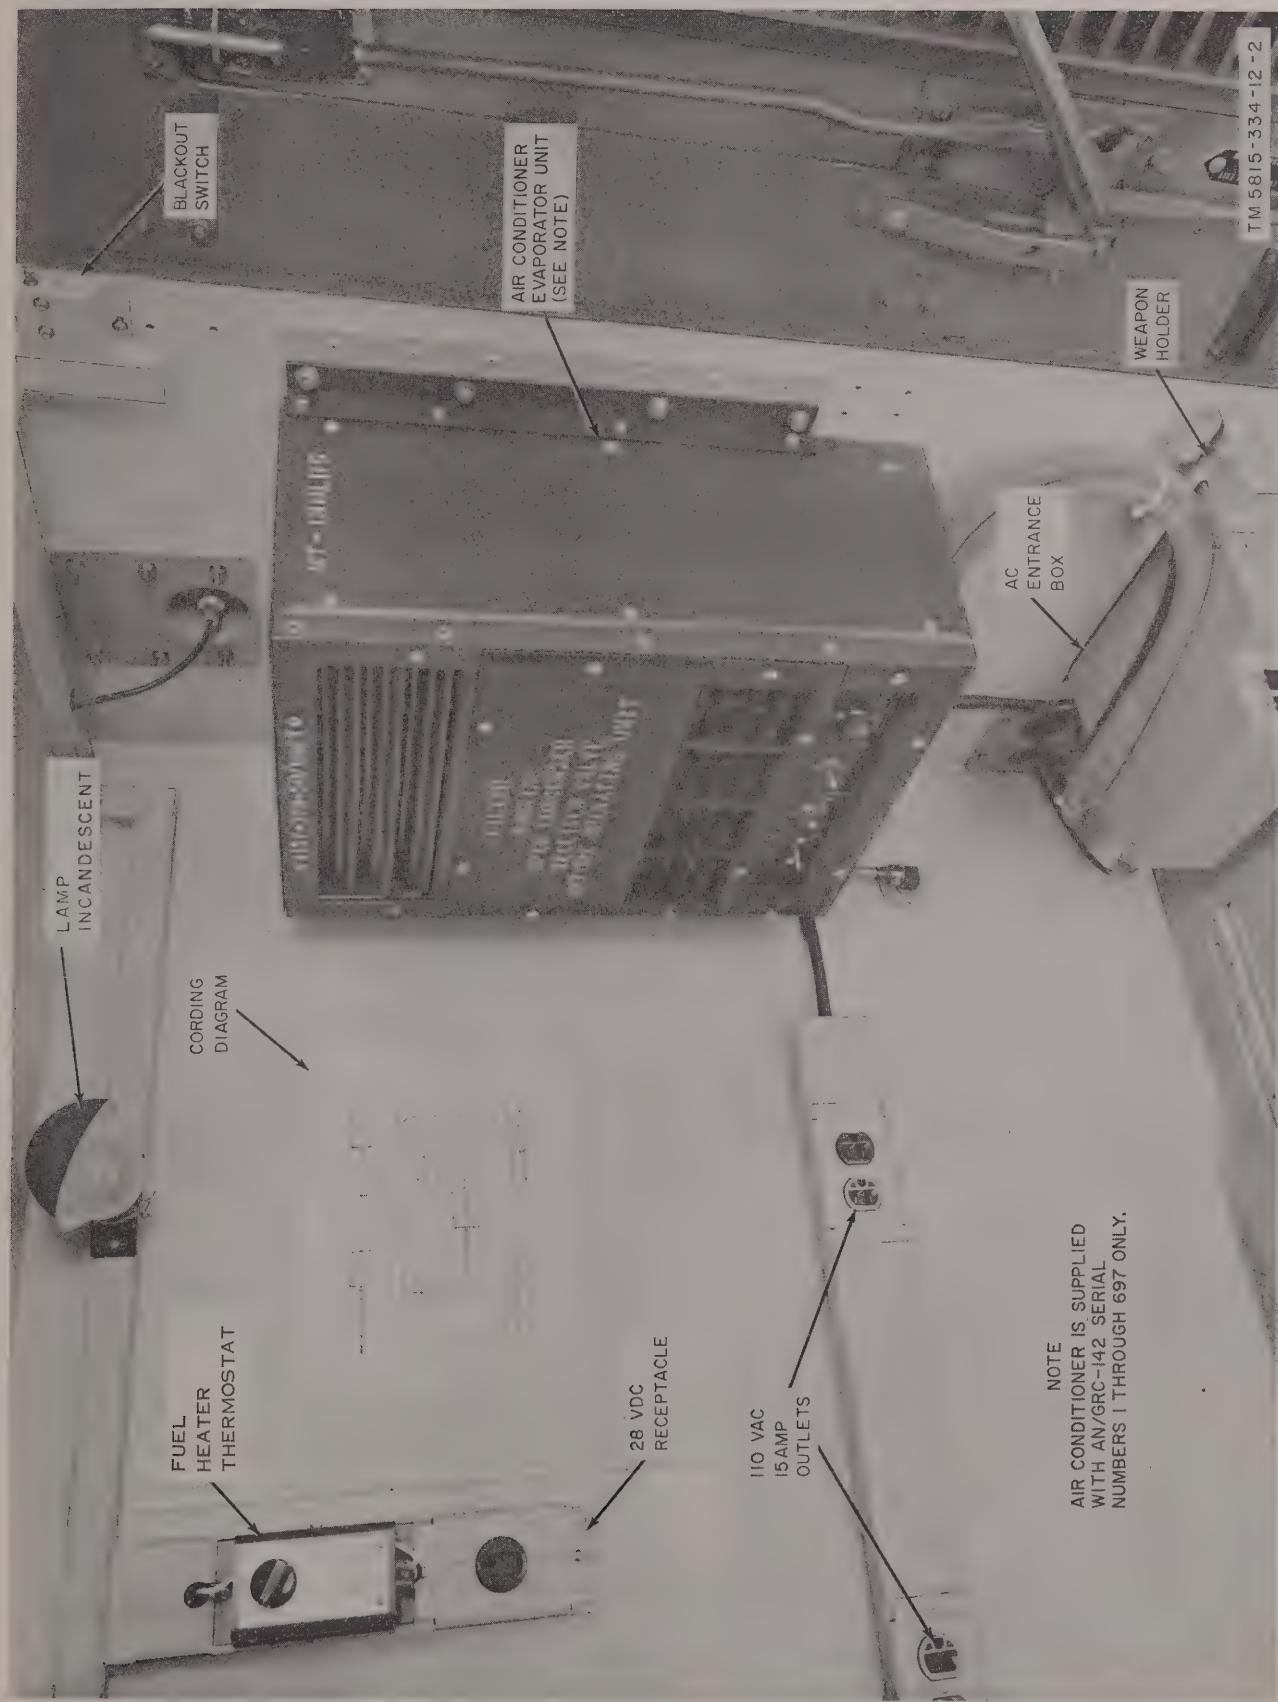

Figure 1-3. Radio Teletypewriter Set AN/GRC-142 or AN/GRC-122, shelter interior, rear curbside corner.
a. *Air Conditioner (AN/GRC-142, Serial Numbers 1 Through 697 Only).* The air conditioner (fig. 1-3) is mounted on the shelter rear wall. It provides 6,000 British thermal units per hour (btu/hr) of cooling during hot weather operation, and 1,250 watts of heating during cold weather. For a detailed description of the air conditioner, refer to the maintenance manual packed with the equipment.